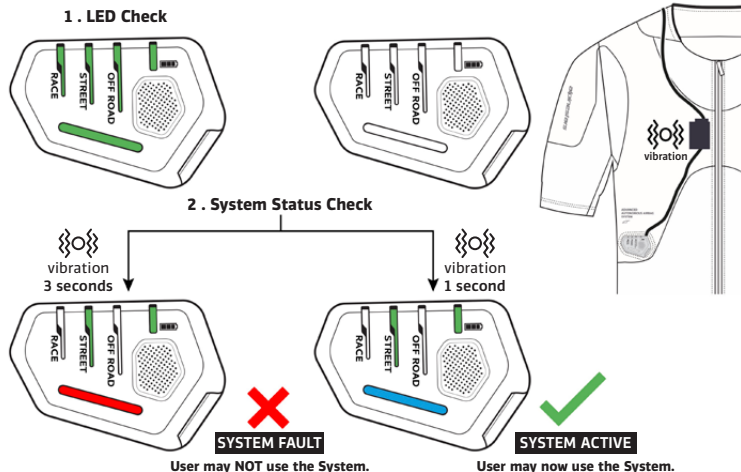

Figure 9: System is Performing both the LEDs Check and the Status Check
1) LEDs Check: during this phase, the System will check if all the LEDs present on the LED Display (3) are correctly functioning. The User will see that all the available LEDs (3b, 3c, 3d) will turn on SOLID GREEN for approximately one second and then will turn off as shown in Figure 9.
2) System Status Check: after the LEDs Check phase, the System Status LED (3b) will turn SOLID BLUE indicating that the System is active (Figure 9) and therefore is ready to protect the User in the event of an accident. A short vibration of approximately 1 second will also be felt in the vicinity of the Activation Zip (2). In this condition, the User can also check the existing Riding Mode (Riding Mode LED [3c]) that is currently running, and the battery level of the System (Battery Level LED [3d]) (see Section 8; "LED Display (3) Indications Summary.")
WARNING! If the System Status LED (3b) turns SOLID RED, a System Fault is present (Figure 9). A long vibration of approximately 3 second will also be felt in the vicinity of the Activation Zip (2). This condition indicates that the System is NOT correctly functioning and, therefore, is NOT ready to protect the User in the event of an accident (see Section 19 "Troubleshooting.")